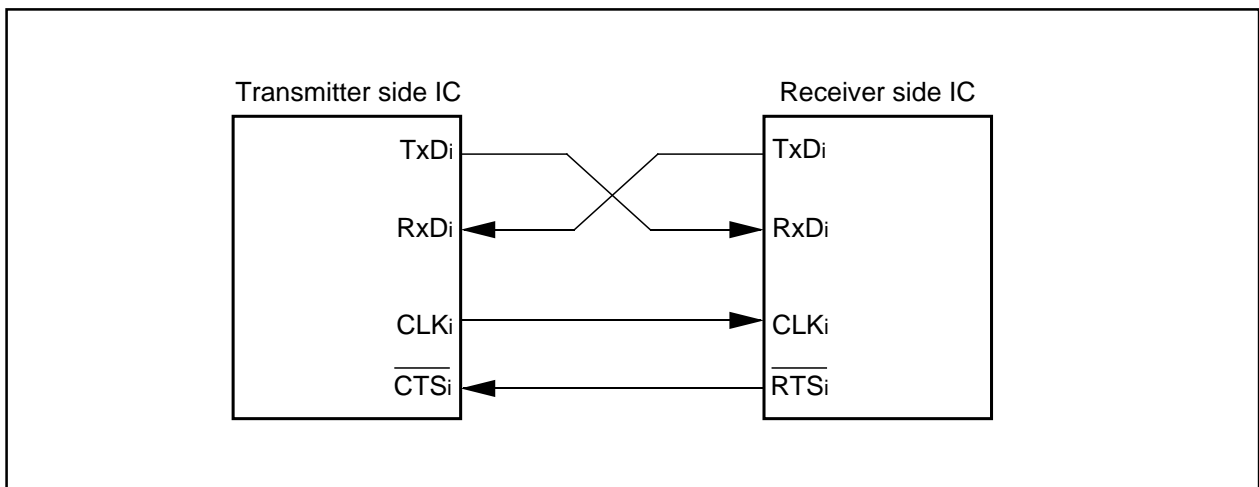

Figure 2.4.16. Example of wiring
- (1) With an external clock selected, and choosing the \overline{RTS} function, the output level of the \overline{RTSi} pin goes to “L” when the data-receivable status becomes ready, which informs the transmission side that the reception has become ready. The output level of the \overline{RTSi} pin goes to “H” when reception starts. So if the \overline{RTSi} pin is connected to the \overline{CTSi} pin on the transmission side, the circuit can transmission and reception data with consistent timing. With the internal clock, the \overline{RTS} function has no effect. Figure 2.4.16 shows an example of wiring.